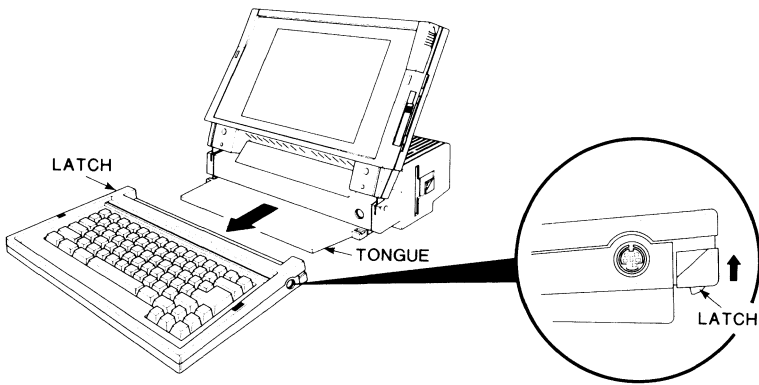

Figure 2-5. Removing the Keyboard
1. Press up on the latches that hold the keyboard to the computer, as shown in Figure 2-5